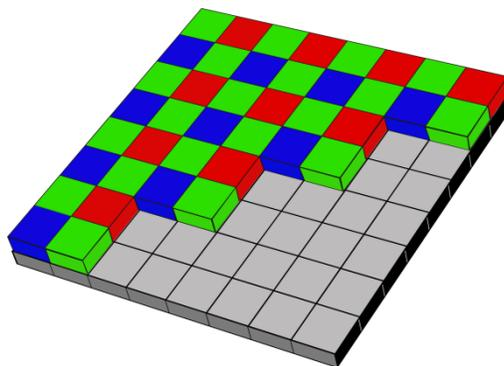

Figure 1 – Common Bayer color filter array (CFA) or mosaic pattern.
The majority of color cameras feature a single sensor that employs a color filter array (CFA) or mosaic. This mosaic typically consists of red (R), green (G), and blue (B) optical filters overlaid in a specific pattern over the pixels (Figure 1).